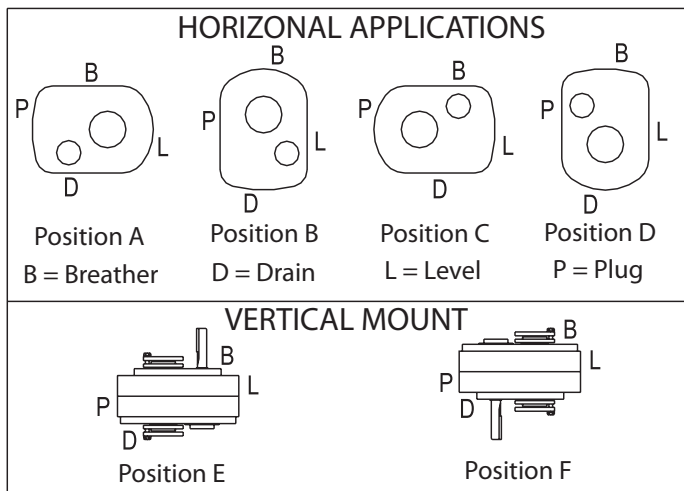

Figure 3 - Mounting Positions
1. Determine the running positions of the reducer. (See Fig. 3) Note that the reducer is supplied with 7 plugs; 5 around the sides for horizontal installations and 1 on each face for vertical installations. These plugs must be arranged relative to the running positions as follows:
① Refer to Fig. 3 for mounting positions
② U.S. Measure: 1 qt. = 32 fl. oz. = .94646 liters
③ Below 15 RPM output speed, oil level must be adjusted to reach the highest oil level plug (P)
NOTE: If reducer position is to vary from those shown in Figure 3, either more or less oil may be required. Consult factory.